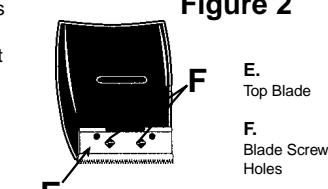

Figure 3
**Adjustable Blade Units:** Place new top (small) blade into position on clipper head (Figure 3). Position new bottom blade to align screw holes in blade adjustment lever plate. Replace screws so they are snug but not tight (Figure 4).